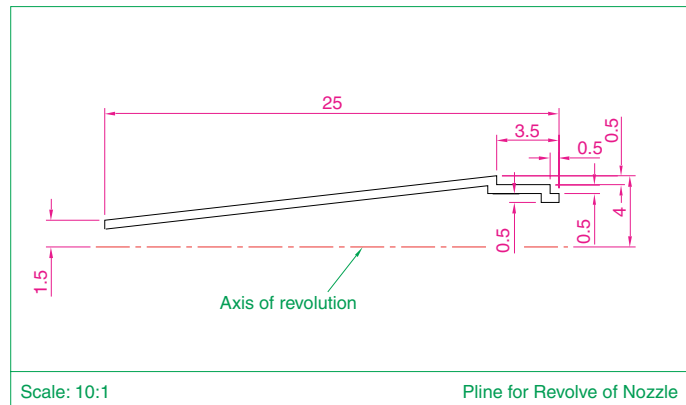

Fig. 13.45 Exercise 5
5. Fig. 13.45 shows the outline from which a solid of revolution can be constructed. Using the **Revolve** tool construct the solid of revolution.